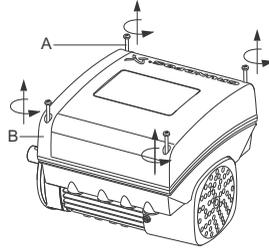

Fig. 59 Removing the terminal box cover
1. Loosen the four screws (fig. 59, A) and remove the terminal box cover (fig. 59, B).
- Fit the terminal box cover (fig. 59, B) and cross-tighten the four mounting screws (fig. 59, A) to 6 Nm.